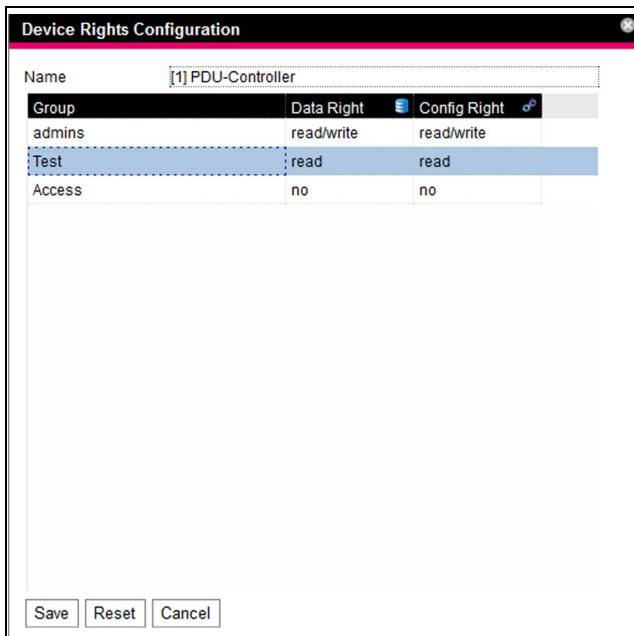

Fig. 54: "Device Rights Configuration" dialogue
- Click on the Configure Device Rights symbol (fig. 52). The "Device Rights Configuration" dialogue will appear (fig. 54).
The "Device Rights Configuration" dialogue will appear (fig. 54).
The respective symbols are displayed both when selecting a sensor in the navigation area on the **Configuration** tab and opening it down to the lowest level, as well as in the "Device Rights Configuration" dialogue (fig. 54). The symbols illustrate allocation to the two data types "Data" and "Config".